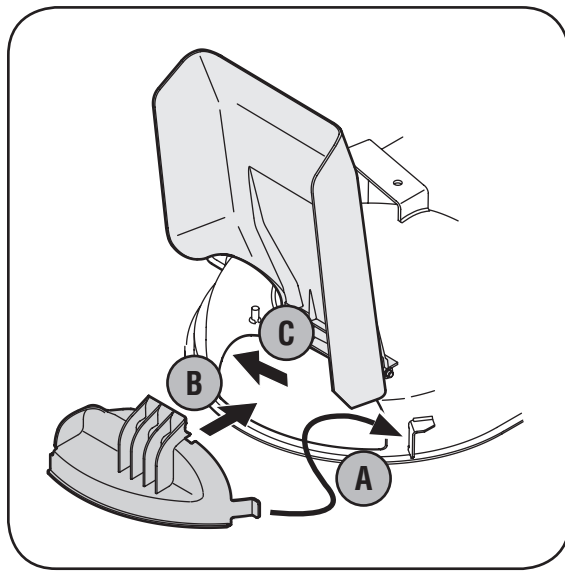

Figure 4-3: Installation of the mulch plug.
4. To install the mulch plug, insert the right-side tab (A) of the plug into the bracket on the deck, Figure 4-3.
5. Insert the mulch plug into the discharge opening (B), Figure 4-3.
6. After the mulch plug has been placed into the deck opening, push the plug towards the rear of the mower (C) to fit the plug properly into the opening, Figure 4-3.